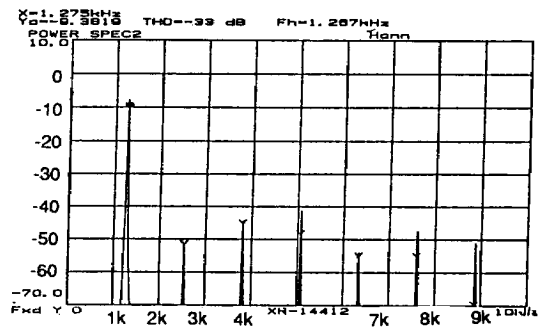

Figure 3. Typical Transmit Carrier Frequency Spectrum
**Modulator:** This block, contained in the XR-14412, converts serial binary data into an FSK-encoded carrier signal. The carrier frequency is controlled by the mode and type inputs. Input data must be TTL- or CMOS-compatible. The output of the modulator is a digitally synthesized sine wave (see Fig. 2), with its harmonic content shown in Fig. 3.